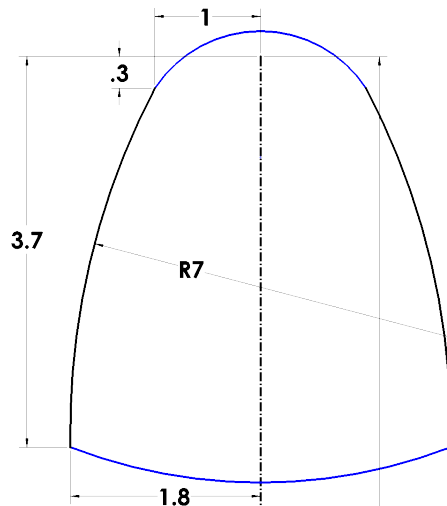

Fig. 8
Step 1. Click **3 Point Arc**  (S) in the **Arc flyout**  on the Sketch toolbar.
Step 2. Sketch an arc between the top endpoints of arc and a second arc across bottom endpoints of arc, **Fig. 8**.